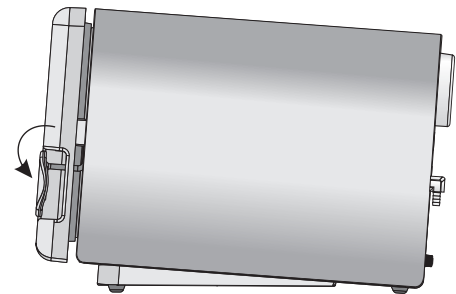

Fig.17
- 5► **HANDLE** - Located in the front part of the autoclave (Figs. 4 and 5), it's used to open, close and lock the autoclave door (panel/lid set). To check the door correct locking position see Figs.17 and 18 (Page 13).
► Close the door of the autoclave. To close it correctly, having the door open and the handle all the way to the left, close the door by pressing it against the chamber, slide the handle to the right, and then press it all the way down until it's aligned with the panel, (Figs.17 and 18, page 13). To open the autoclave, follow the same procedure reversing this sequence.